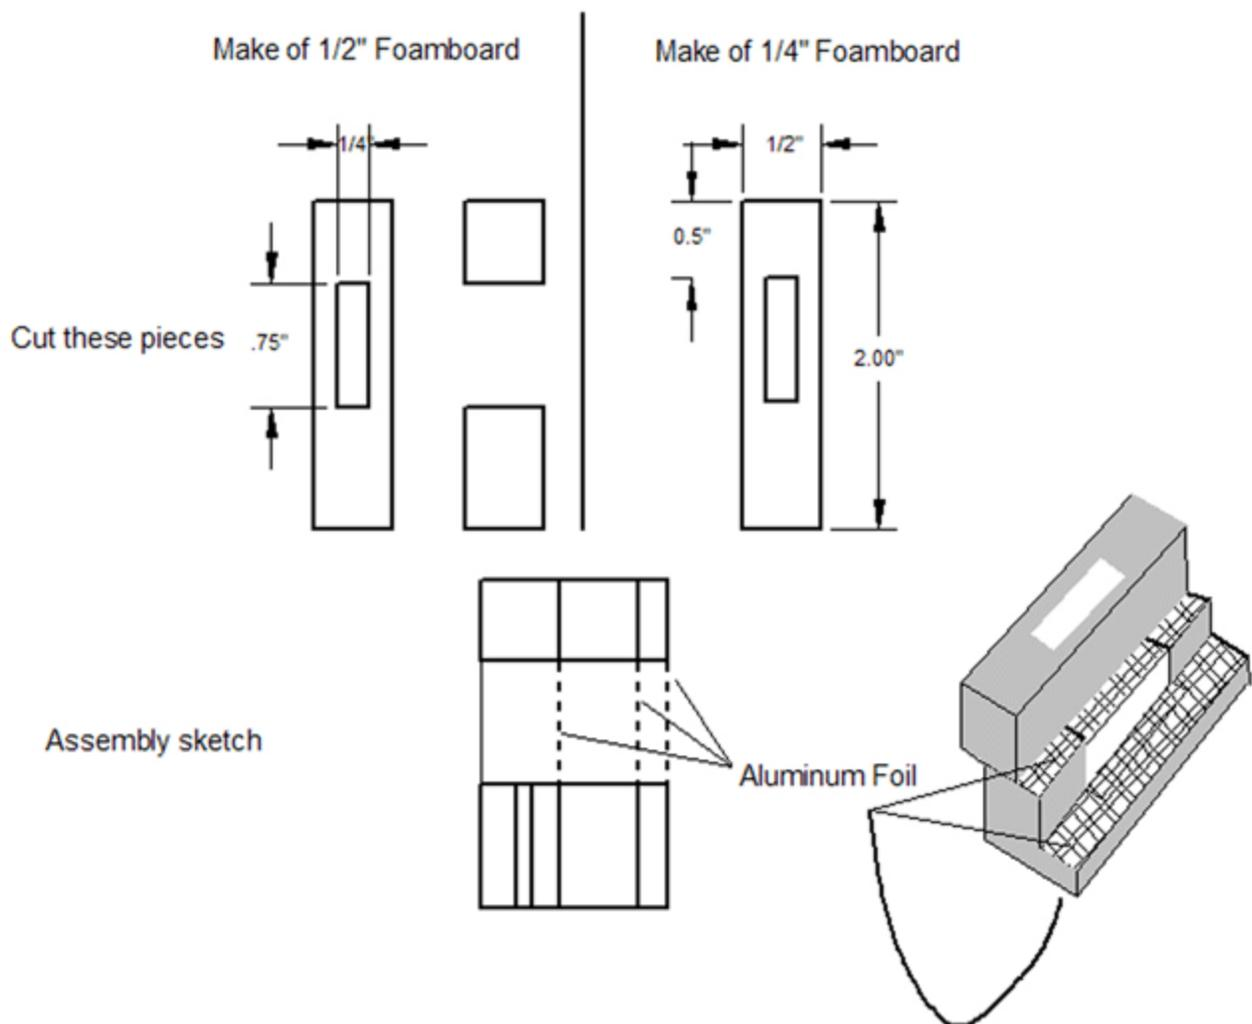

Figure 16. This diagram shows the dimensions and assembly of the sunshield pieces.
1. Following the dimensions in Figure 16 below, cut out the pieces of foamboard to make the sunshield.
- a. The 1/2-inch foamboard with the rectangular opening (top left of Figure 16) is called the front plate and enables the probe to detect light reflected from the multiple mirrors. The other two 1/2-inch foamboard pieces are spacer blocks.
- b. The 1/4-inch-thick piece (top right of Figure 16) is called the back plate and is positioned nearest to the heat lamp. This foamboard is in the form of a rectangle with a central cutout. The shape of the central cutout is not critical, but it must be at least as large as the opening in the 1/2-inch foamboard. The bottom of the cutout will be sealed by aluminum foil.
2. Using the diagram above in Figure 16 and the photos below in Figure 17, assemble the sunshield.